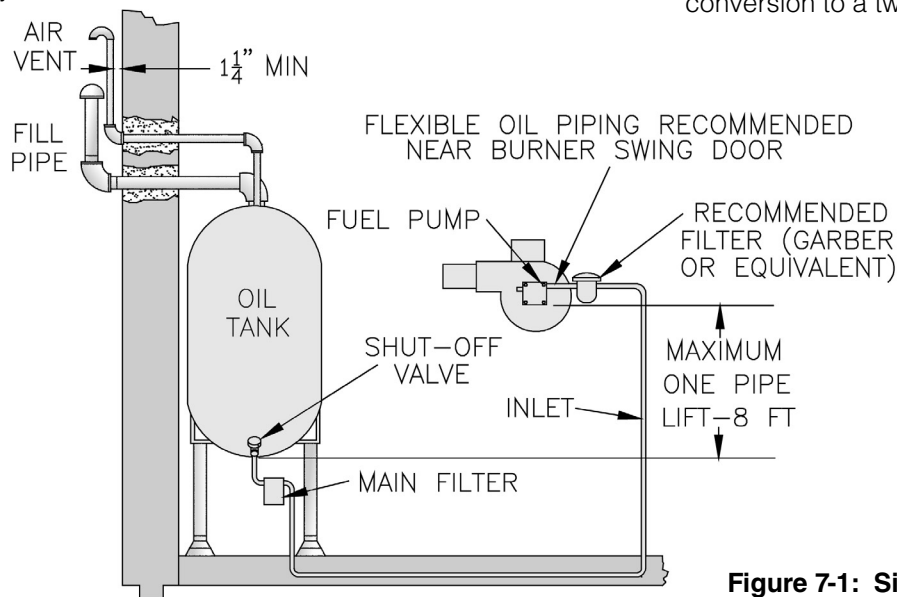

Figure 7-1: Single Pipe Oil Line
2. The single-stage fuel unit may be installed single-pipe with gravity feed or lift. Maximum allowable lift is 8 feet. See Figure 7-1.